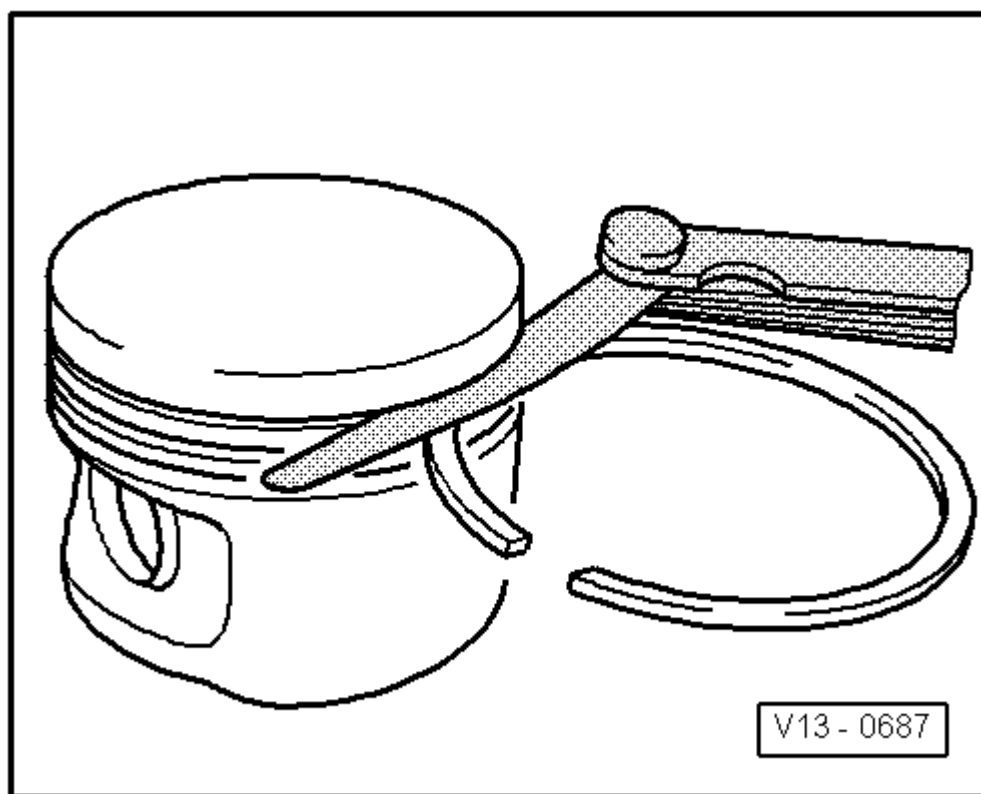

Fig. 30: Identifying Check Of Piston Ring Gap
- Piston ring groove clearance, checking. Refer to **Fig. 30**.